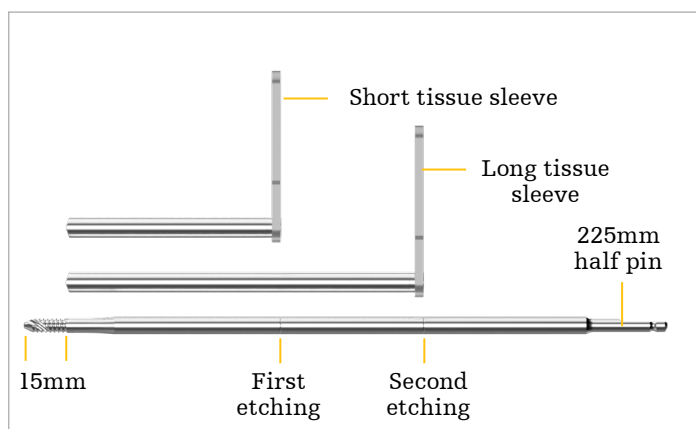

Figure 21
- **225 and 250mm half pins:** may be used with the short or long tissue sleeve; contain two etchings **(Figure 21)**